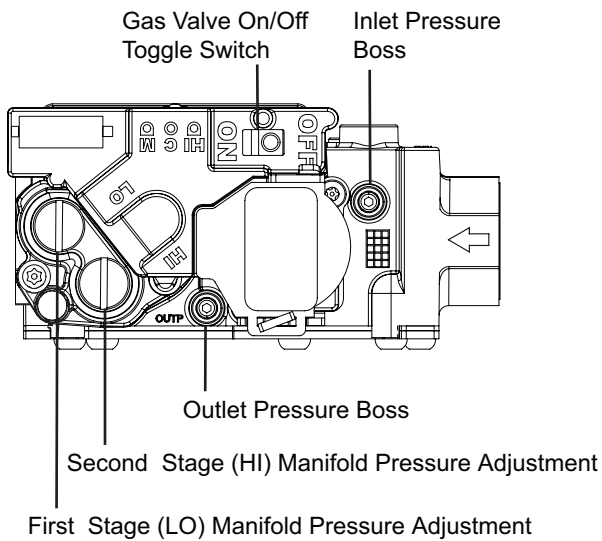

Figure 5. White-Rodgers two-stage gas valve - LP spring installation
- v. Repeat this procedure to replace the high fire regulator spring with the other spring from the kit. See Figure 3, p. 9 and Figure 5, p. 9.
- b. Remove the high (HI) adjustment regulator cover screw. See Figure 5, p. 9.